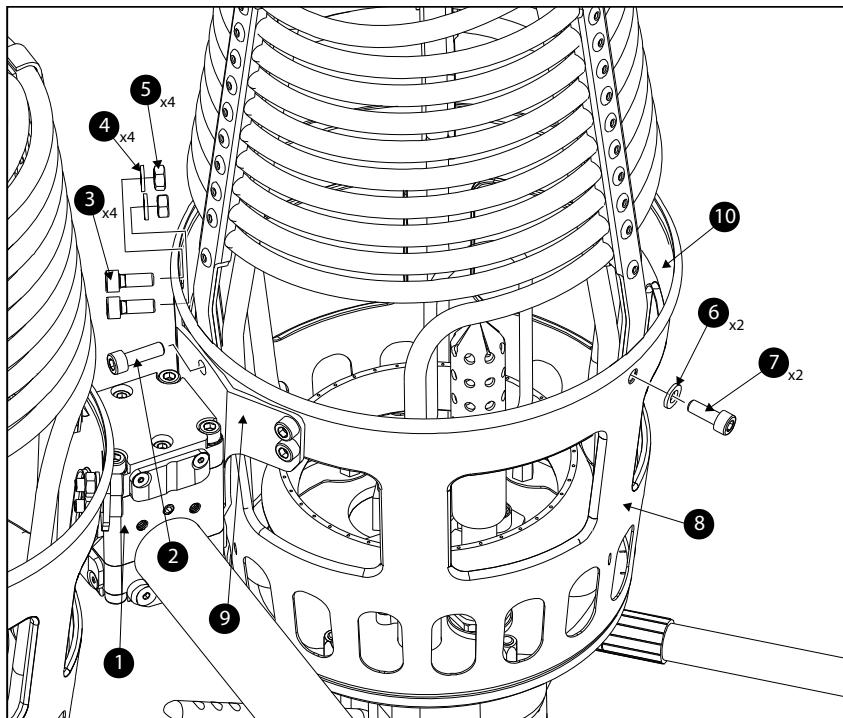

Figure 2 - Can & Coil Fixings
If it is considered that the can must be replaced, refer to Figures 2 and 3 and proceed as follows:
- Using a 5 mm Allen key, undo and remove the three screws (Figure 2, items 2, 6 and 7) securing the coil strips to the can. Note that the screw on the bracket (Figure 2, item 2) is longer and does not use washer.
- Using a 5mm Allen key, undo and remove the four fixings (Figure 2, item 3) securing the can to the supporting bracket. Note that the screws are fitted with nuts (Figure 2, item 5) and washers (item 4). When reassembling the can later, fit new copper nuts.